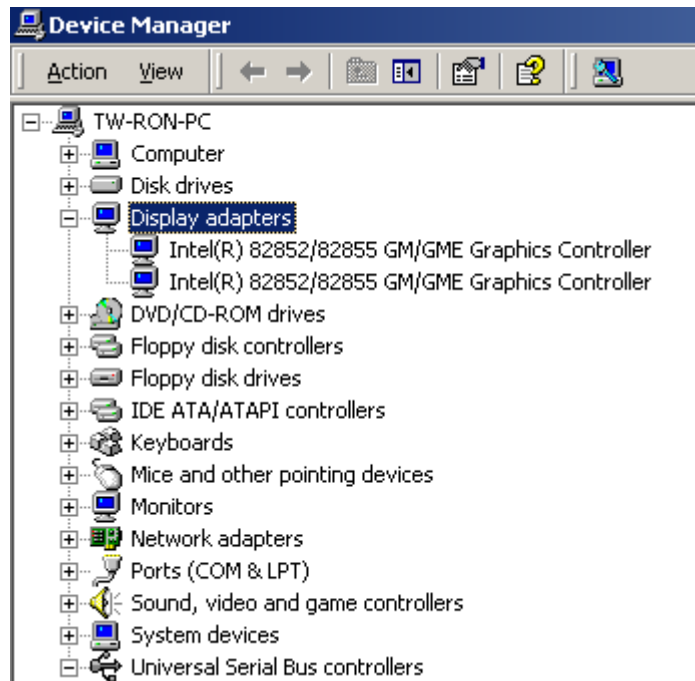

Figure 7-7: Expand the Display Adapters Category
Step 5: Expand the **Display Adapters** category (Figure 7-7). Right click the adapter and select **Properties**.